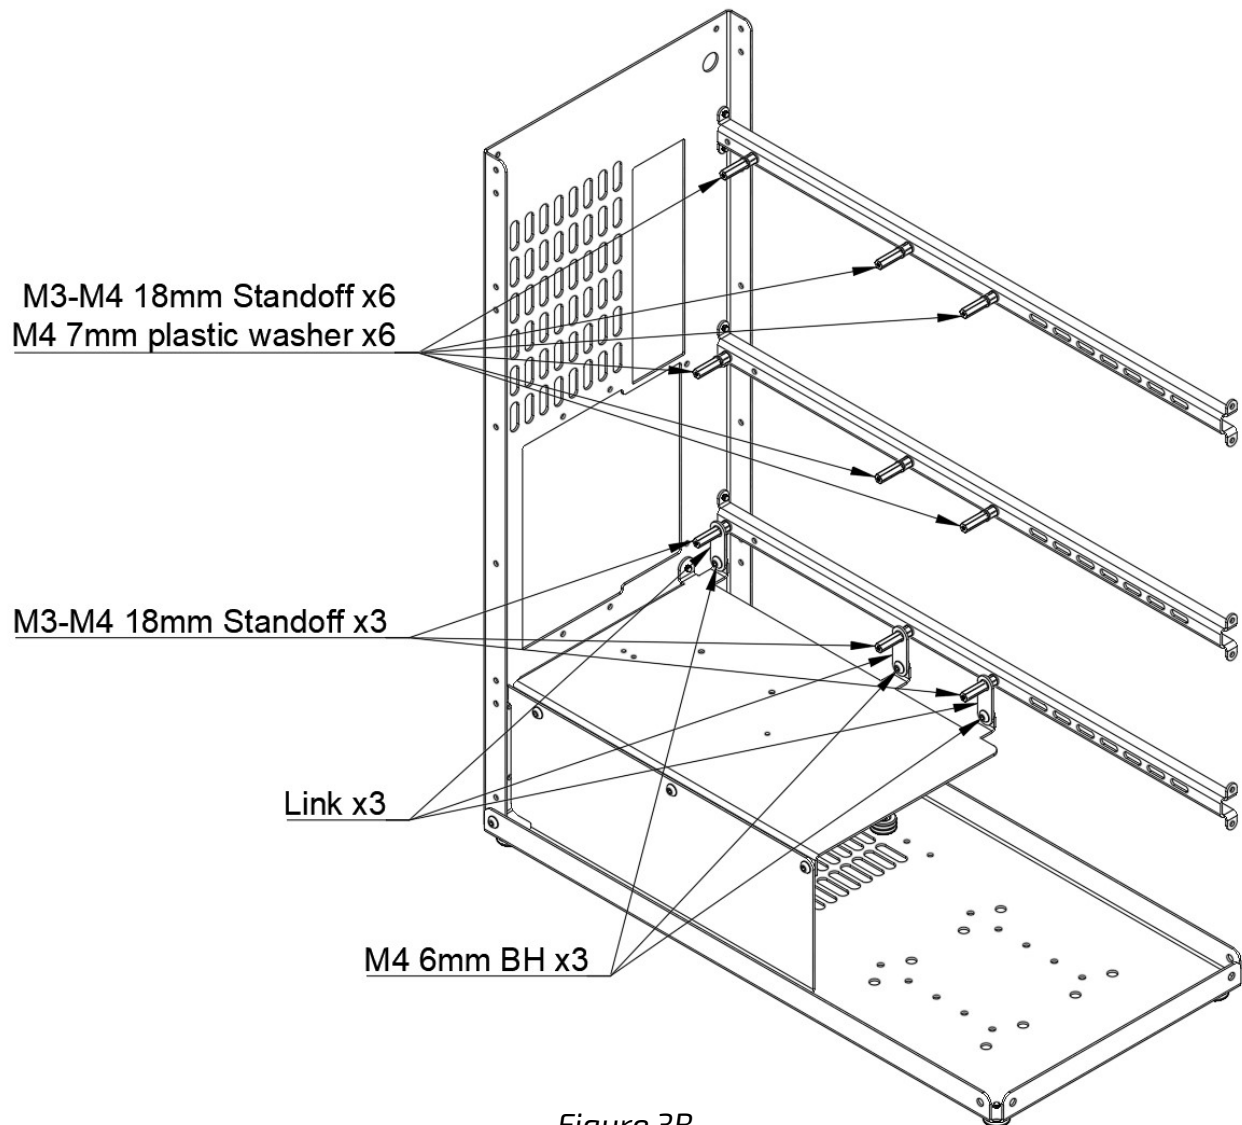

Figure 3B
- **Step 7:** Install M3-M4 18mm Standoff x6 with M4 plastic washer x6 to the top and middle Reinforcing bars onto the M4 6mm standoffs in the locations marked on *Figure 3B*.
- **Step 8:** Then install Links x3 to the bottom Reinforcing bar and secure them with M3-M4 Standoff x3 without washers then secure the links to the PSU top panel using M4 6mm BH x3 according to *Figure 3B*.